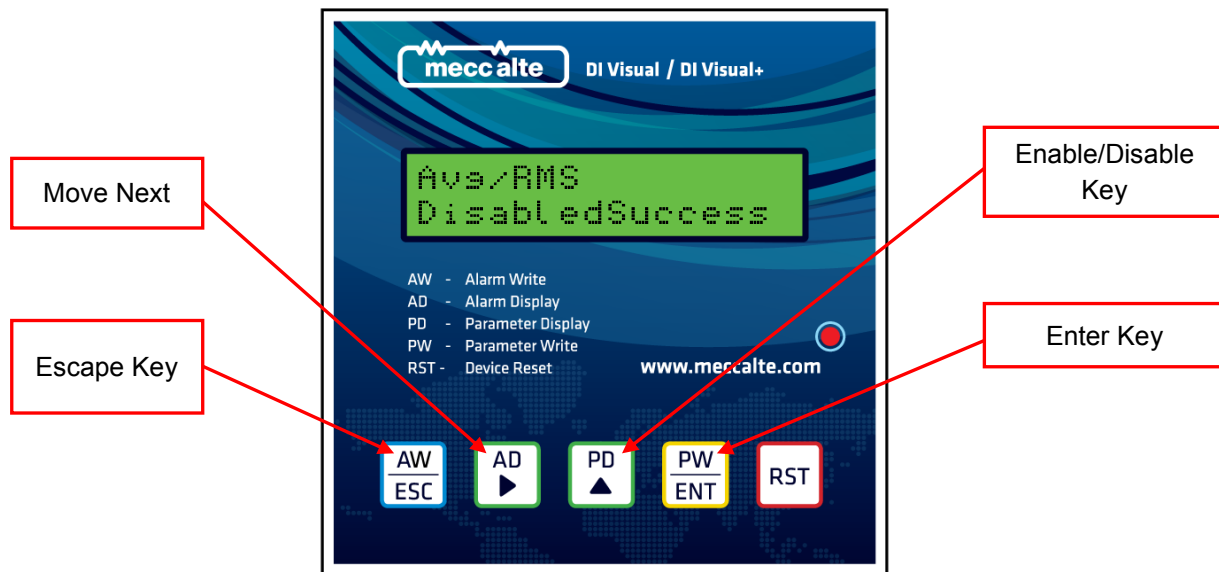

fig. 24
For changing the configuration Bits of DSR i.e. Volt, Stab, Hz, Amp Pots etc after Power On or Resetting DI-Visual+ device keep the  key as shown in Fig 24 below to prompt for the first configuration bit setting stored in DSR.
- 1) To change the configuration bit setting from Enable to Disable or vice versa press  key. Once you have set the desired setting for the selected configuration bit Press  key to update that setting to DSR. The DI-Visual+ will show “Success” message on the LCD for updated DSR POT of configuration bit setting as shown in Fig 24 below.
- 2) To move to next configuration bit press  key as shown in Fig. 24 below.